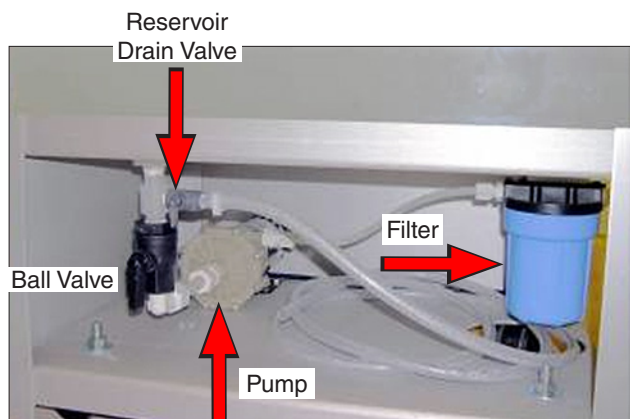

Figure 15.5a: Reservoir drain location. Remove cart side panel to access.
- Open the reservoir drain valve (Figure 15.5a) to drain all liquid.
- Inspect the Dual Spray system filter element (V-2288, Figure 15.5a) Replace if dirty or showing contamination.